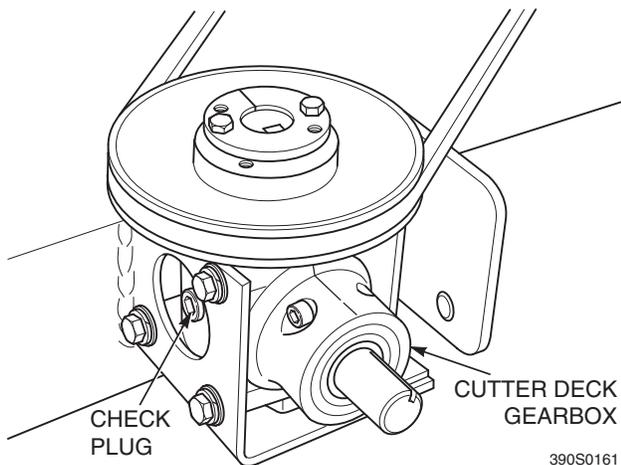

Figure 7-9. Cutter Deck Gearbox
2. Clean and remove the check plug from the side of the gearbox. See Figure 7-9.